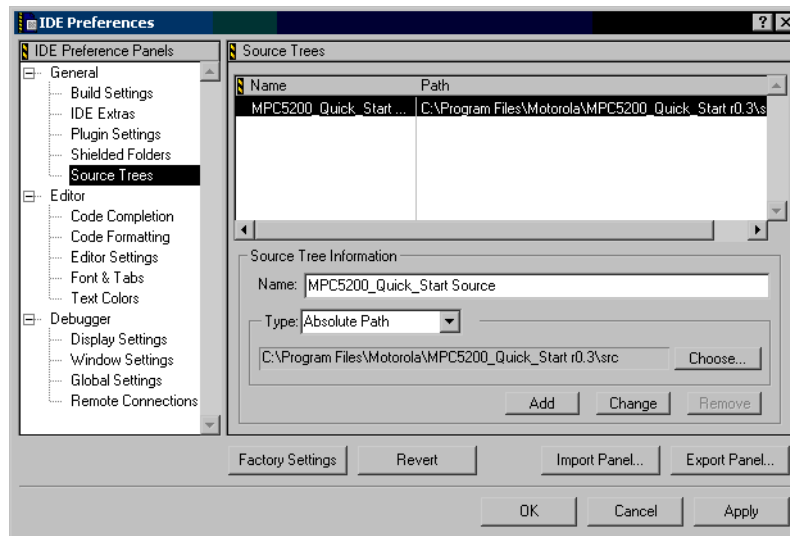

Figure 1. CodeWarrior IDE Preferences Window
2. Select **“Source Trees”** panel in the left-hand side **“IDE Preferences Panels”** list as displayed in Figure 1.